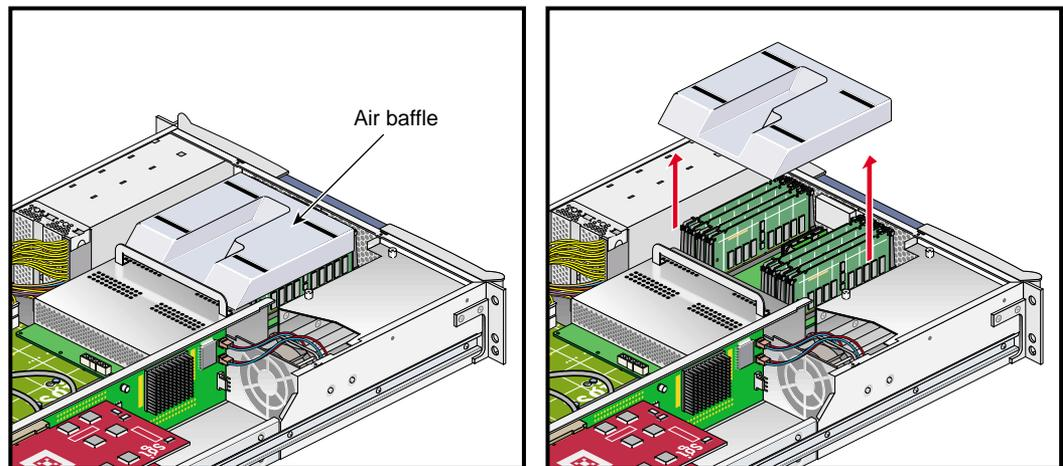

Figure A-9 Removing the Plastic Air Baffle
6. Remove the plastic air baffle covering the DIMMs, as shown in Figure A-9.